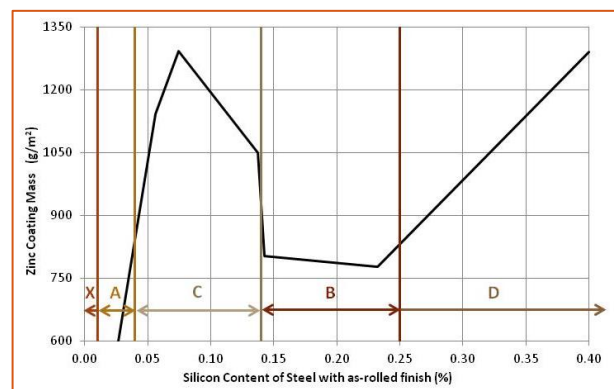

Figure 1: The Sandelin curve
Certain elements, in particular silicon (Si) and phosphorus (P), in the steel can affect HDG by prolonging the reaction between iron and molten zinc. Generally, this results in the outer pure zinc layer, which is responsible for the shiny metallic finish, being consumed and the dull grey zinc-iron alloys being exposed. This characteristic was first described by Sandelin in 1940 and is schematically described in Figure 1.
Where aesthetics are important or where particular coating thickness, materials handling or surface smoothness criteria exist, specialist advice on steel selection should be sought prior to fabrication of the article or hot dip galvanizing. Steels with the chemistry shown in Category A & B (see **Figure 1** & **Table 1**) usually provide the best results for aesthetics and corrosion protection respectively. Australian-made structural steels normally comply with the minimum coating thickness requirements of AS/NZS 4680.